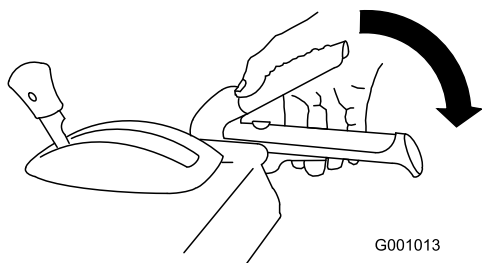

Figure 15
3. To engage the broom, slowly squeeze the right broom lever to the handle (Figure 15).